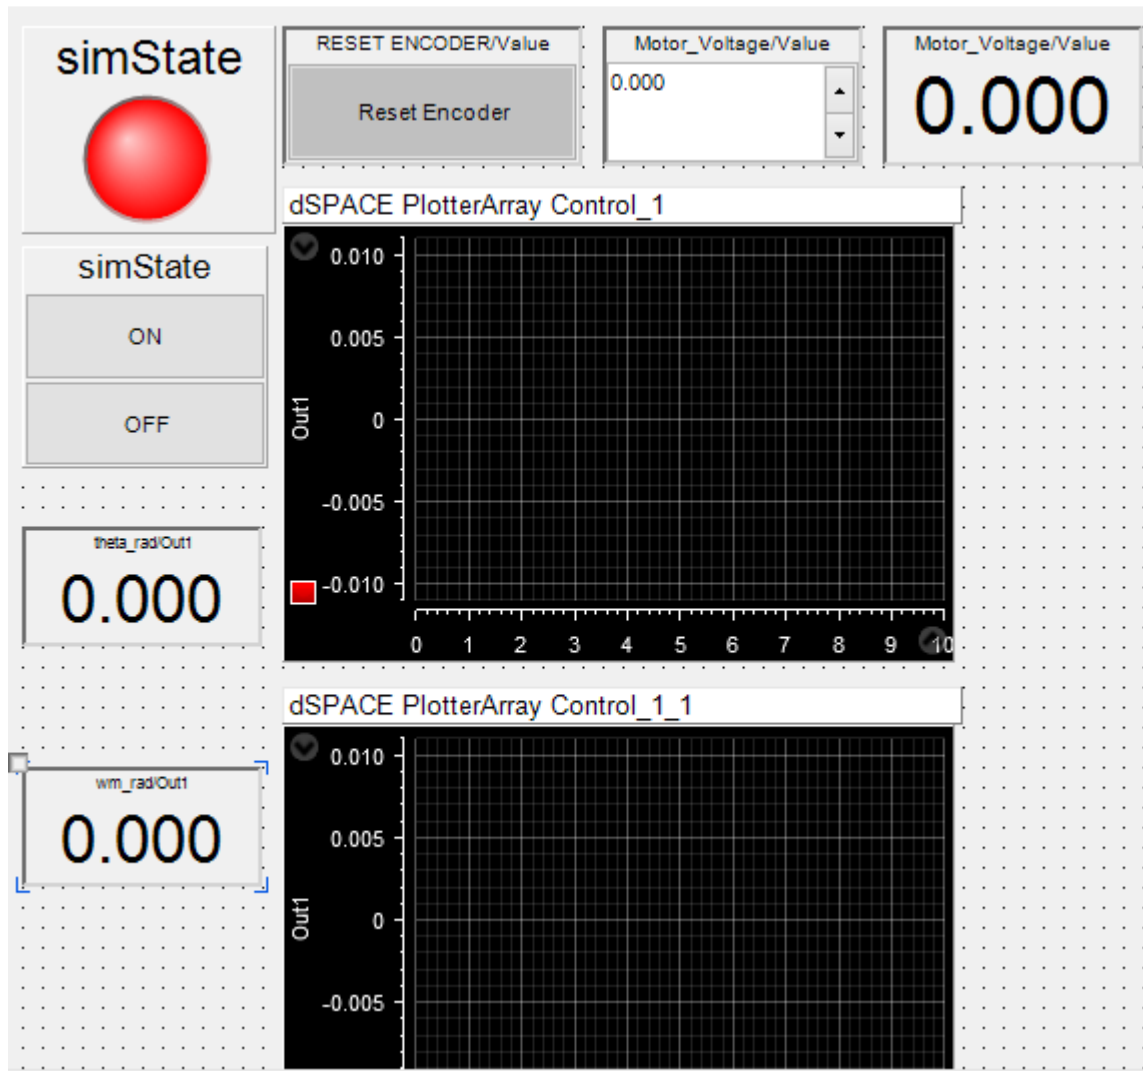

Figure 1: ControlDesk Layout
- Ensure that $T_s = 1e-4$; $nd = 30$; are set up in the model configurations and build the .sdf file. Create a new project & experiment structure in dSPACE (refer to Lab 1 if needed). Import the layout file by going to the **Layout tab > Import Layout**. It should look similar to Figure 1. If the variables aren't mapped when you open the layout, map them by using Figure 1 as a guide. Load the recorder *Lab2.xml* to record your data.